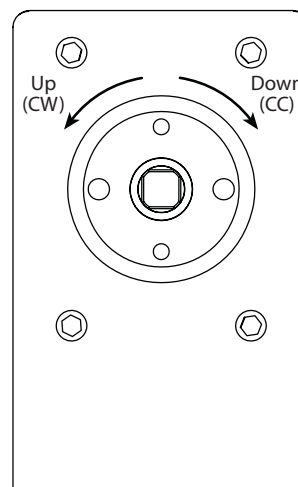

Figure 8: Actuator orientation for directional references
2. Install the valve on the actuator. Make sure that the valve is mounted on the actuator with the stop pin all the way against the Position A stop. You can check by loosening the clamp ring and turning the valve counterclockwise by hand, then tightening the clamp ring. (For orientation, refer to the **Figure 8** at the bottom of the next page.) If it will not move, it was already against the stop.